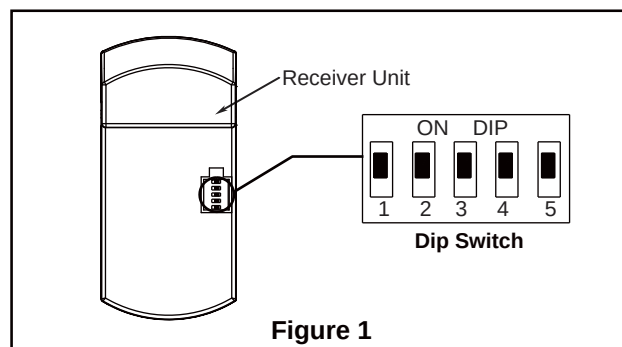

Figure 1
- ☐ 1. Remove the hanger ball portion from the downrod/hanger ball assembly by loosening the set screw in the hanger ball until the ball falls freely down the downrod. Remove the pin from the downrod, then remove the hanger ball. Retain the pin and hanger ball for reinstallation in Step 6. (Figure 1)
To avoid possible fire or shock, be sure electricity is turned off at the main fuse box before hanging. (Figure 1)
1. To set the code on receiver unit, slide dip switches to the same positions as set on the remote. (Figure 1)
- ☐ 1. Remove one of the two shoulder screws in the hanger bracket. Loosen the second shoulder screw without fully removing it. Assemble canopy by rotating key slot in canopy over shoulder screw in hanger bracket. Tighten shoulder screw. Fully assemble and tighten second shoulder screw that was previously removed. (Figure 1)
- ☐ 1. **IMPORTANT:** Using a full range dimmer switch (not included) to control fan speed will damage the fan. To reduce the risk of fire or electrical shock, do not use a full range dimmer switch to control the fan speed. (Figure 1)